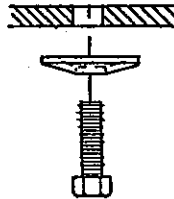

Fig. 8 Blade Bolt Installation
- f. Torque blade bolts to 40 FT-LBS. Be sure the spring disk washer cone is installed toward the bolt head. (See Figure 8.)